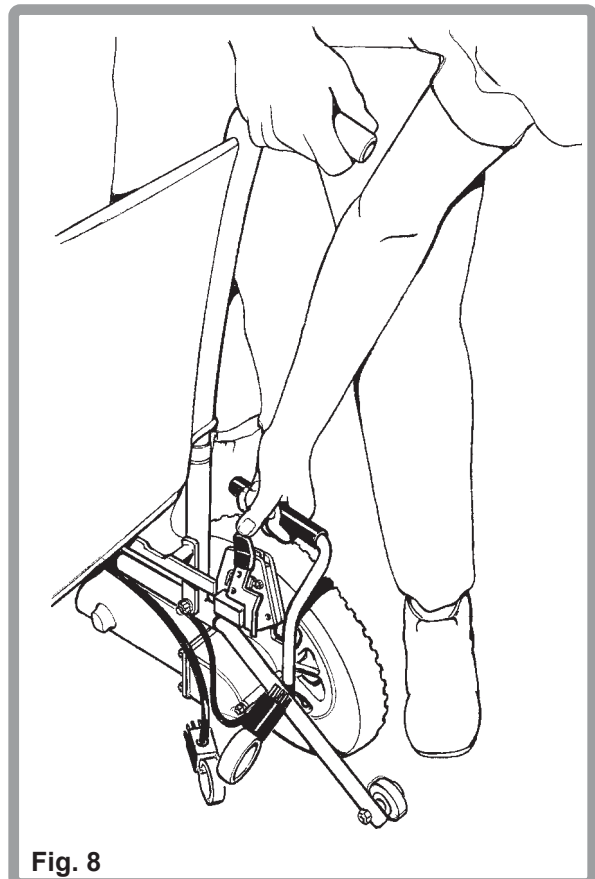

Fig. 8
6. Lift and tilt the chair (Fig. 8), grip the drive unit handle and push down the dedocking trigger and at the same time gently ease the chair away from the motor unit. Move the motor unit away from the chair and repeat the process on the other motor.